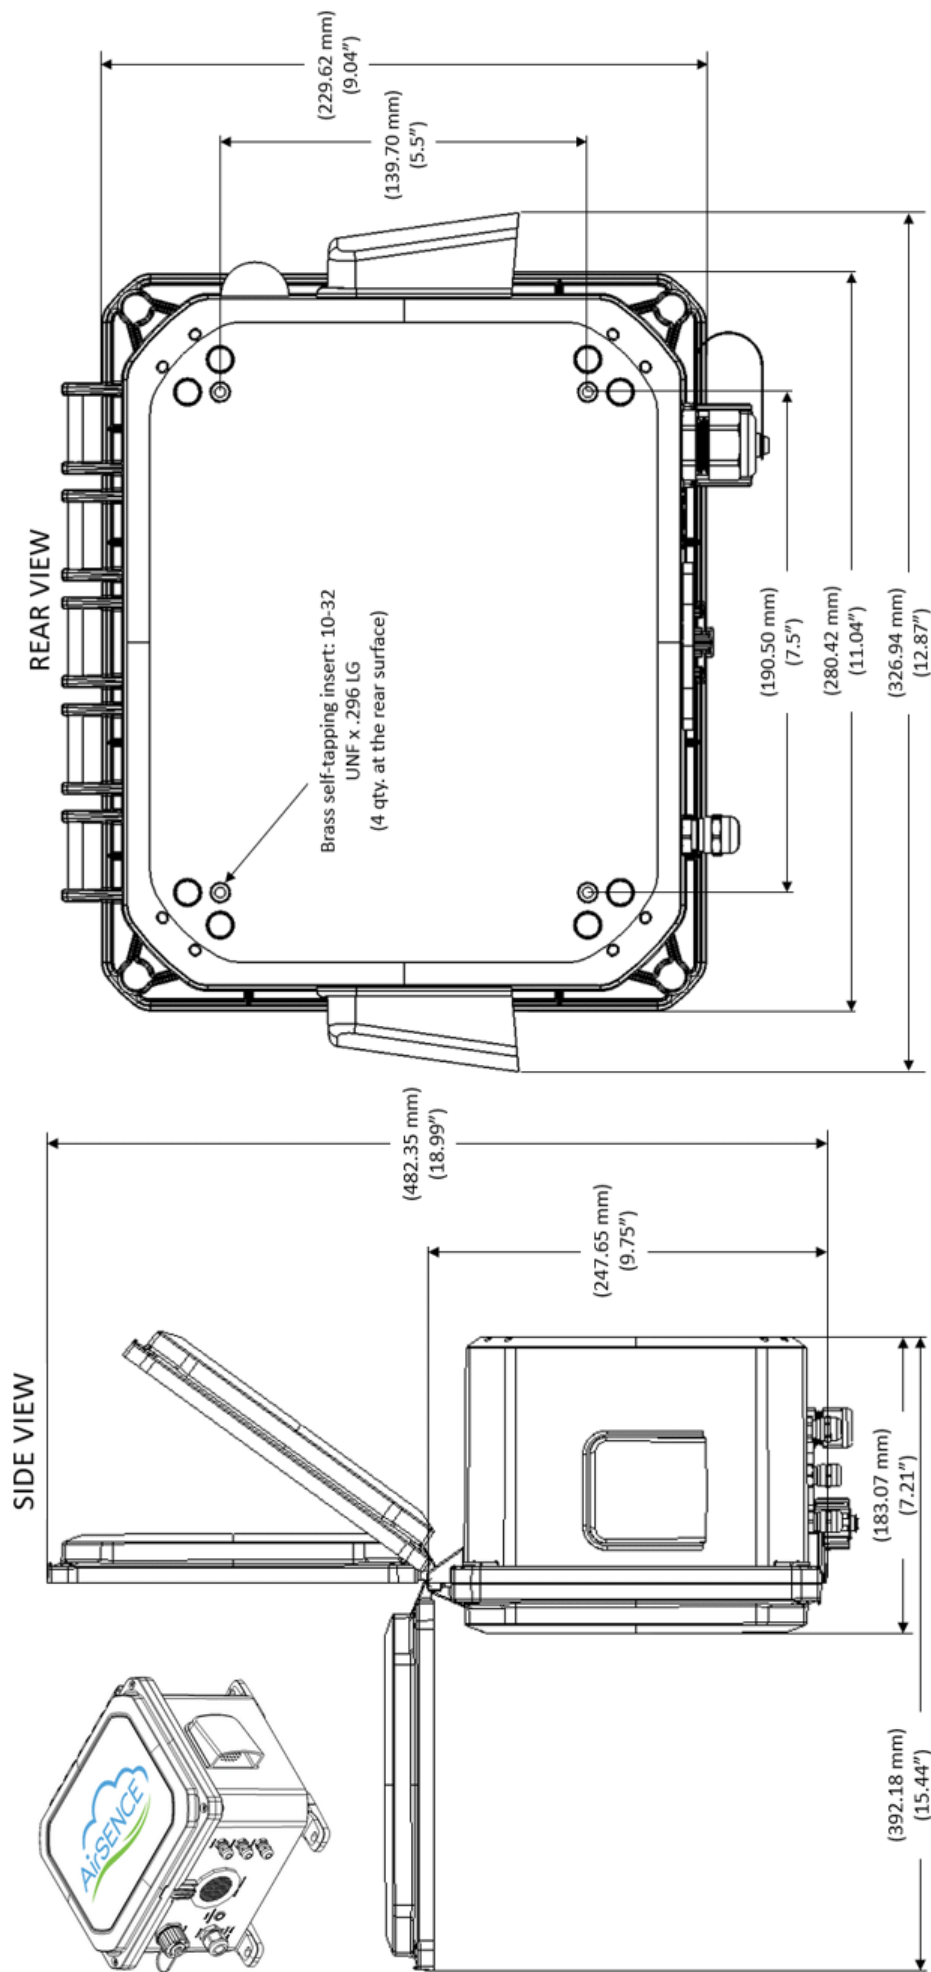

Figure 4.1. Important dimensions for AirSENCE installation, side view (left), rear view (right).
- Due to the unique requirements of each installation location, some customers may prefer to generate their own mounting solution unique to their intended application. Figures 4.1 and 4.2 provide the dimensions of the AirSENCE enclosure which should be taken into account during design.
- Due to the power cable which protrudes from the underside of AirSENCE (not shown in Figures 4.1 and 4.2), a minimum of 20 cm clearance must be provided underneath the enclosure for all mounting solutions. This also ensures adequate space for airflow to the particulates sensor inlet.